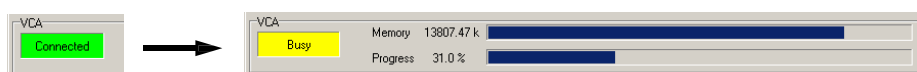

Figure 43 - Download Progress Bar
11. Having established communication, the Message Bank can now be downloaded to the VCA. To start the download, open the VCA menu and select the Download Message Bank to VCA option. The VCA connection status will change colour from green to yellow and display **Busy**. A download progress bar will also appear, shown in Figure 43.